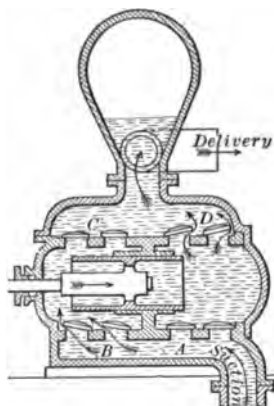

FIG. 100. — A double-acting force pump.
*A* is connected with the delivery pipe, so that the air may act as a cushion or spring. Power pumps, such as are used on fire engines, or in city waterworks, are "double acting" (Fig. 100), which gives a still steadier stream.